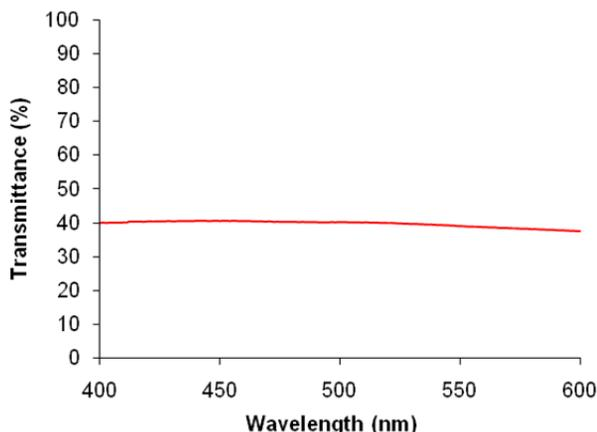

Figure 7 • Praying Mantis™ Throughput
- The Praying Mantis™ throughput at that wavelength should be at least 30% and the spectrum should resemble the Praying Mantis™ throughput spectrum shown in Figure 7.